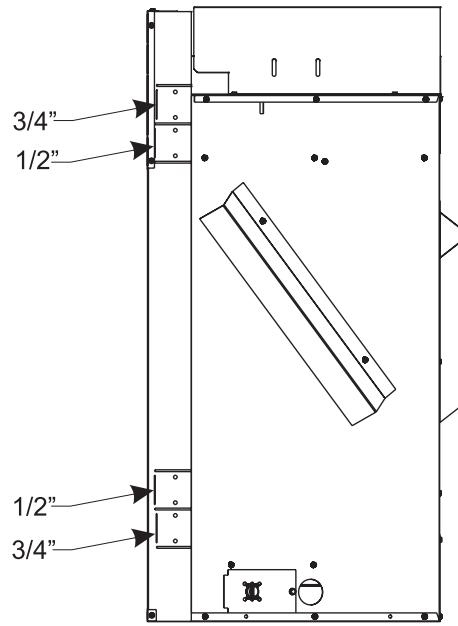

Figure 16
5. Measure from face of fireplace to face of drywall strip to determine final depth and adjust nailing flanges as shown in **Figure 16**.